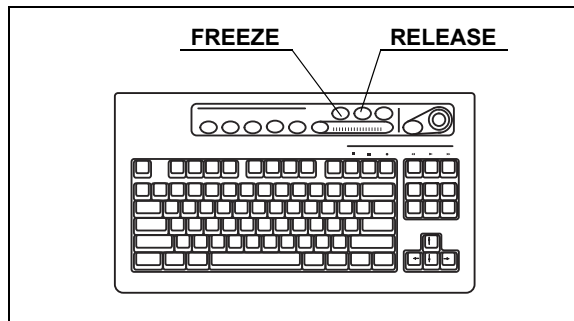
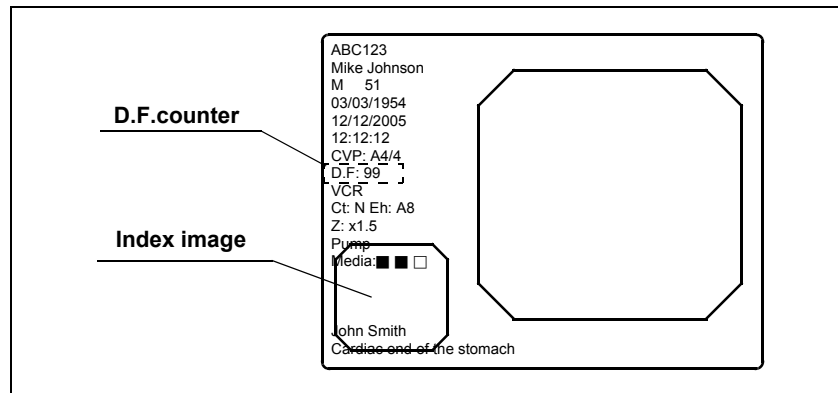

Figure 5.76
Figure 5.77
1. Press the "FREEZE" key (see Figure 5.76) to freeze the endoscopic live image.
3. Press the "RELEASE" key (see Figure 5.76) to record the image. The frozen endoscopic image returns to the live image. The D.F. counter on the monitor increments by one (see Figure 5.77).